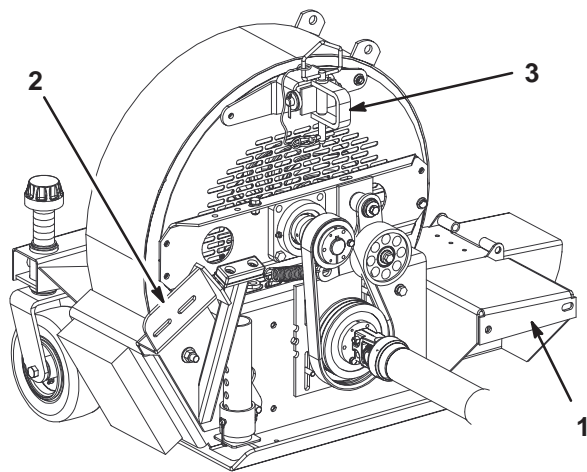

Figure 5
4. Have a helper carefully push down on the right push arm until the holes in the ball joint mount line up with the holes in the blower mounting bracket (Fig. 5).